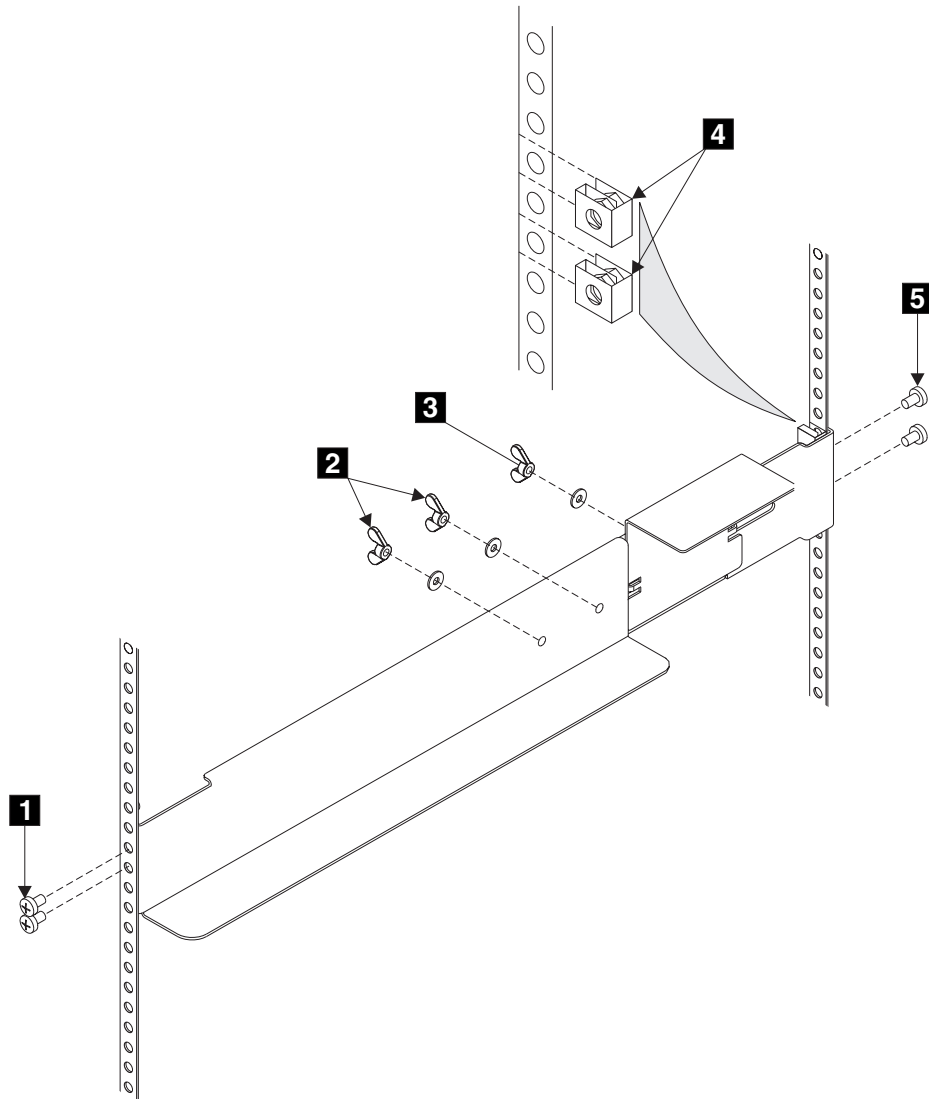

Figure 28. Support rail components for placing the 2145 UPS in the rack
1. Attach nut clips **4** to the rack (see Figure 28 on page 40). These nut clips must align with the second and fourth holes of the support rail flange.